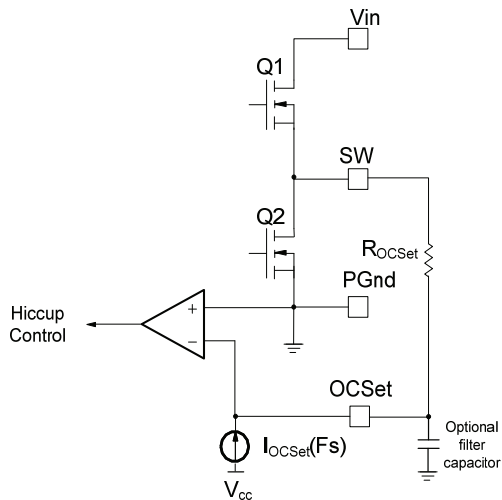

Fig. 7. Connection of over current sensing resistor
The over current protection is performed by sensing current through the R_{DS(on)} of the sync FET. This method enhances the converter’s efficiency and reduces cost by eliminating a current sense resistor. As shown in figure 7, an external resistor (R_{OCSet}) is connected between OCSet pin and the switch node (SW) which sets the current limit set point.